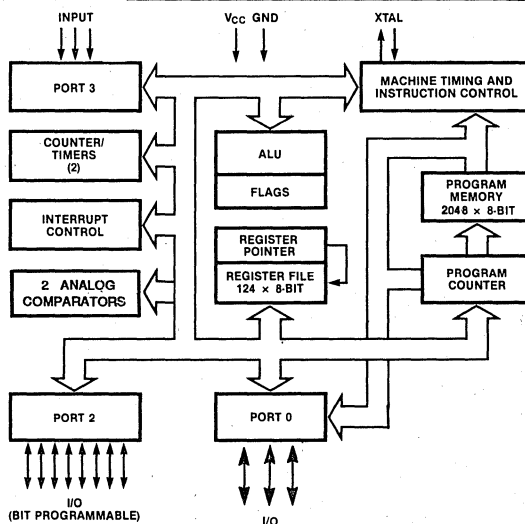

Figure 3. Functional Block Diagram
**P00-P02.** I/O Port Lines (inputs/outputs, CMOS compatible). The three lines of Port 0 are programmable as inputs or outputs on a group basis (Figure 3).
**P20-P22.** I/O Port Lines (inputs/outputs, CMOS compatible). The eight lines of Port 2 are programmable as inputs or outputs on a line by line basis (Figure 3).
**P31-P33.** Input Port Lines (inputs, CMOS compatible). The three lines of Port 3 are programmable as digital or analog comparator inputs on a group basis (Figure 3).
Z86C08 architecture is characterized by a flexible I/O scheme, an efficient register and address space structure and a number of ancillary features that are helpful in many applications (Figure 3).